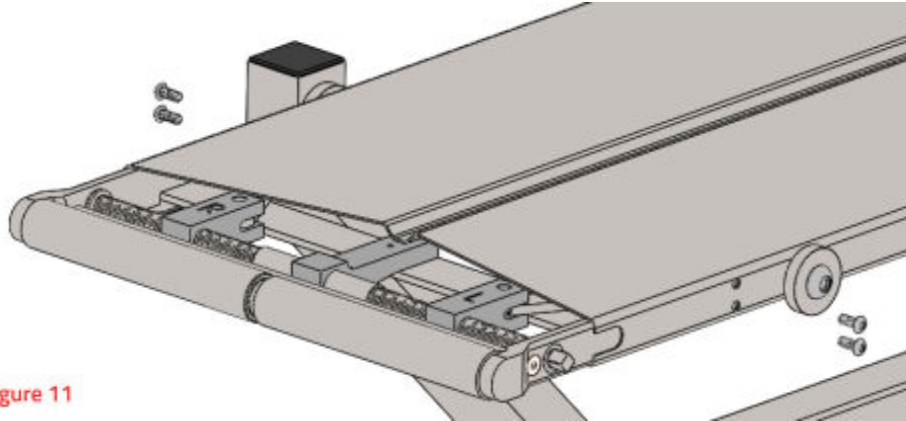

Figure 11
2. Remove the 4 bolts securing the tensioning assembly to the conveyor body using a 9/64 hex key. (See Figure 11)